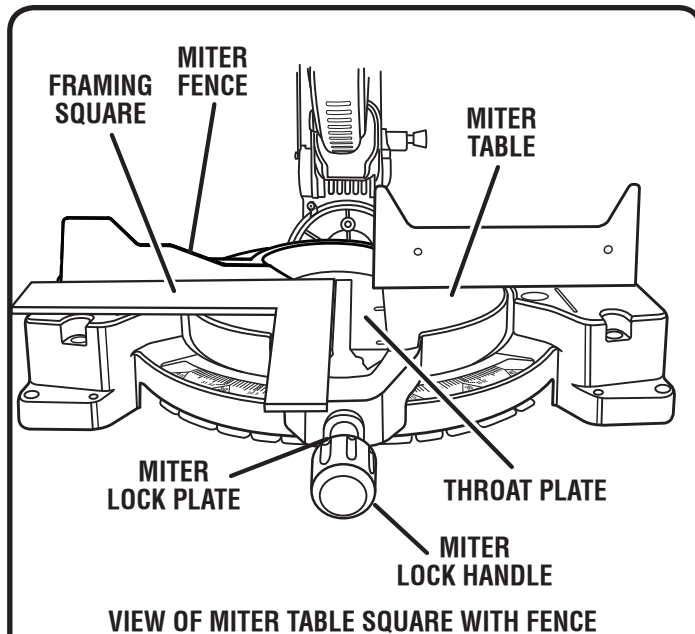

Fig. 13
See Figures 13 - 16.
- Lay a framing square flat on the miter table. Place one leg of the square against the fence. Place the other leg of the square beside the throat plate in the miter table. The edge of the square and the throat plate in the miter table should be parallel as shown in figure 13.